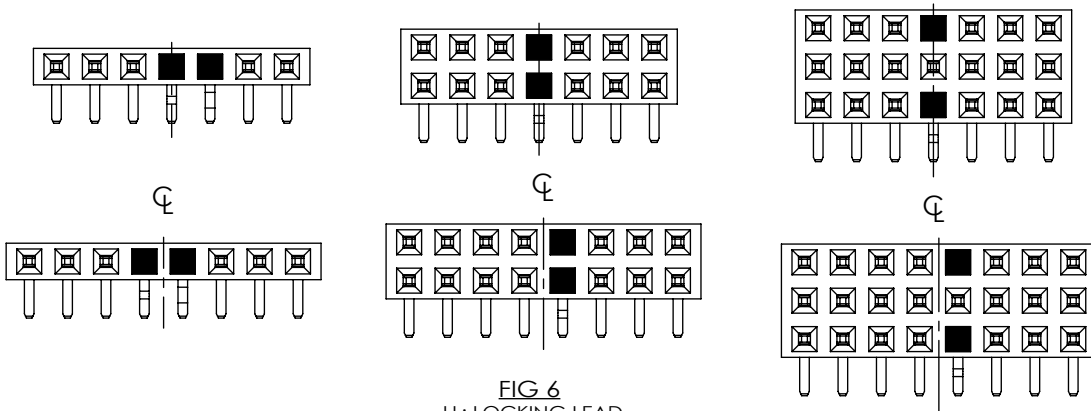

FIG 6
-LL: LOCKING LEAD (SEE FIG 6, SHT 2) (N/A WITH SINGLE ROW, 1 OR 2 POS)